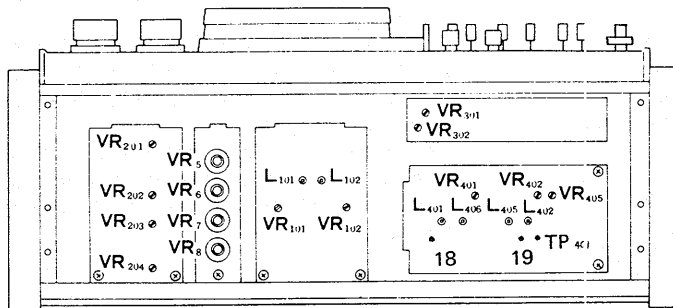

Fig. 26
8.1 PLAYBACK SENSITIVITY ADJUSTMENT (Fig. 26)
8.2 PLAYBACK EQUALIZER ADJUSTMENT (Figs. 26, 27)
8.4 BIAS OSCILLATOR AMPLITUDE ADJUSTMENT (Fig. 26)
8.5 BIAS-TRAP ADJUSTMENT (Fig. 26)
8.6 RECORDING BIAS ADJUSTMENT (Fig. 26)
8.7 ERASE HEAD DUMMY ADJUSTMENT (Fig. 26)
8.8 LEVEL METER CALIBRATION (Fig. 26)
8.9 RECORDING SENSITIVITY ADJUSTMENT (Fig. 26)
8.10 REC. AND P.B. FREQUENCY RESPONSE ADJUSTMENT (Figs. 26, 28)